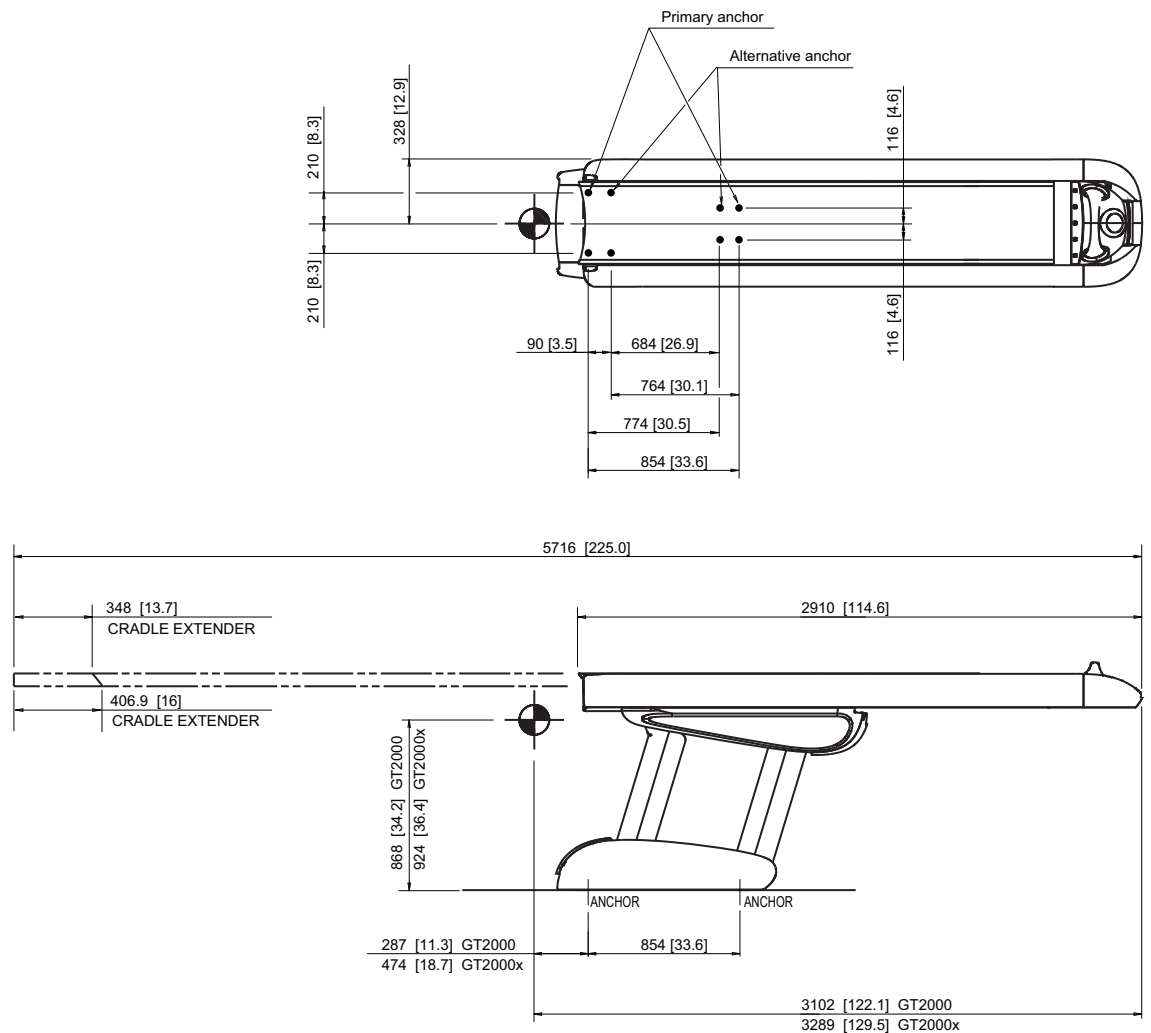

Figure 8-26 VT2000 and VT2000x Center-of-Gravity
- Table: Figure 8-25 ~ Figure 8-26